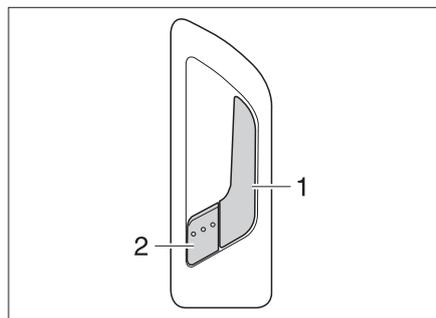

Fig. 25 Door lock of conversion door, inside
**Opening:** ■ Pull on the handle (Fig. 25,)1. The door lock is unlatched. The locking lever (Fig. 25,2) jumps out automatically.
**Locking:** ■ Press the locking lever (Fig. 25,2).